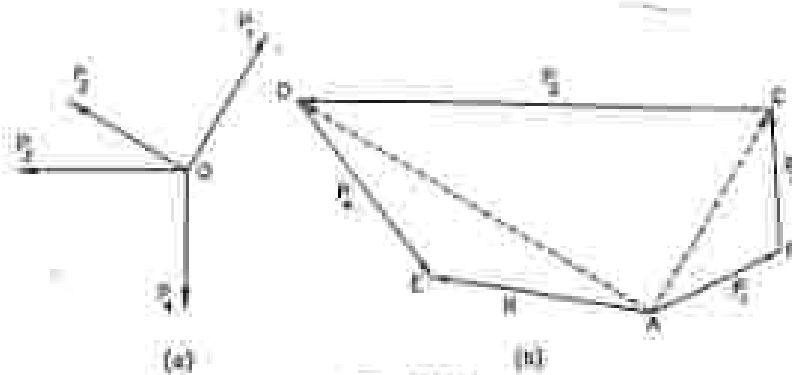

Fig. 1.19
- Let forces P_1, P_2, P_3 and P_4 , acting at a point O be such that they can be represented in magnitude and direction by the sides AB, BC, CD and DE of a polygon $ABCDE$ as shown in fig. 1.19.